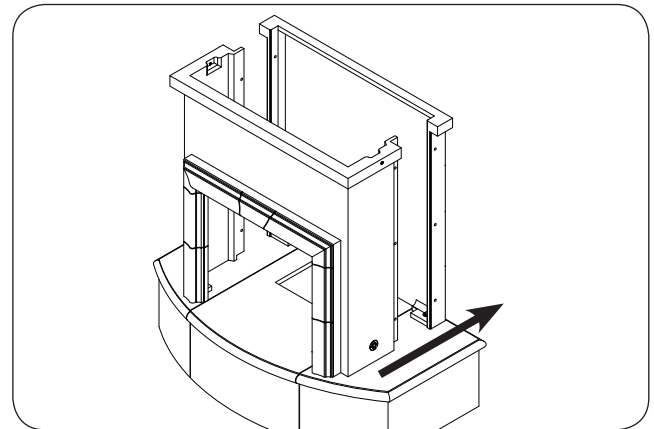

Fig. 18-2 Place body - front wall
2. Place the body front wall and align the pilot holes. See Fig. 18-2.